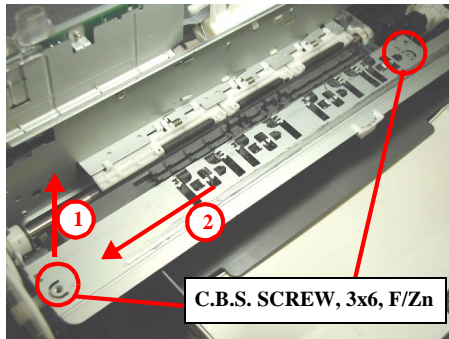

Figure 4-45. Front frame removal
- Fasten two screws (C.B.S. SCREW 3x6 F/Zn) for securing the Front frame to the Main frame (Refer to Figure 4-45)